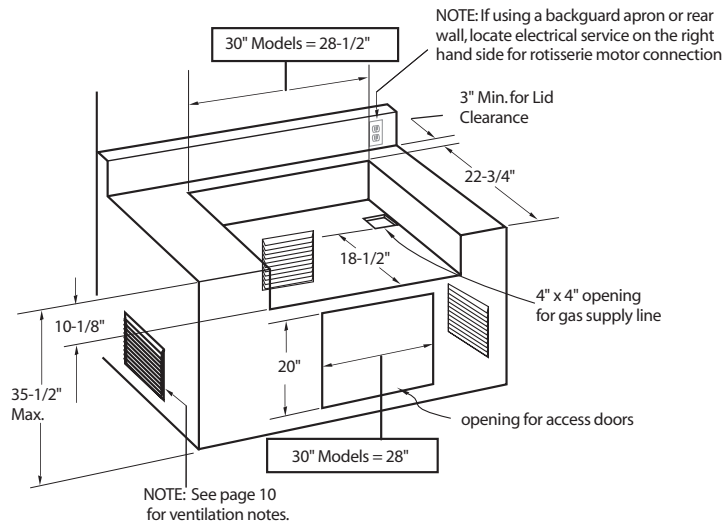

**FIG.3A**
*It is recommended that a minimum of 10 sq. inches of ventilation opening be provided for both the left and right sides, as well as the back of enclosure (fig. 3A). In order to safely dissipate unburned gas vapors in the event of a gas supply leak.*
*Note specific built in enclosure ventilation requirements. See text and fig 3A.*